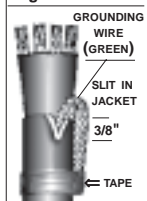

Fig. 2
- Slit jacket along side green conductor as shown in Fig. 2.
- Fold stripped grounding wire back on jacket and tape to jacket covering ends of strands as shown in Fig. 2.